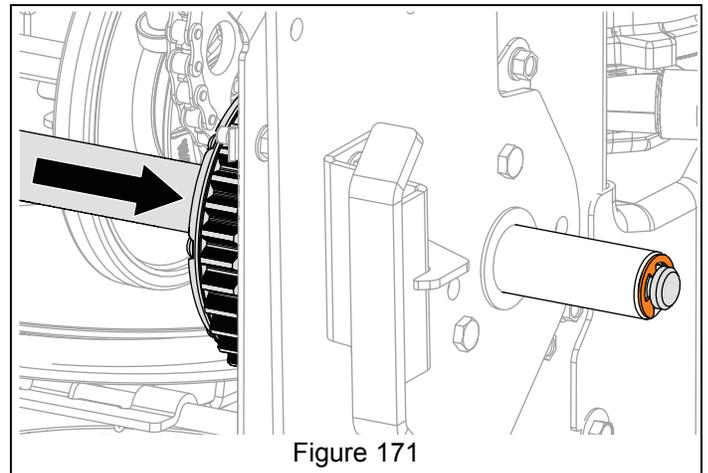

Figure 171
- Reinstall E-ring onto axle end. See Figure 171.